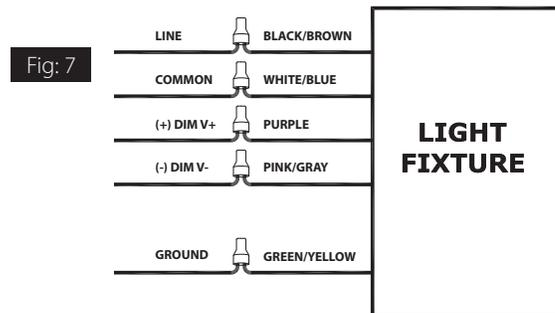

Fig: 7
2. Make appropriate wire connections per NEC in an approved enclosure (*not included*) see **Fig. 7**.
3. Loosen the **Locking Bolts (4)** and swivel **Fixture** to desired angle.
4. Tighten the **Locking Bolts (4)**.
Universal voltage driver permits operation at 120V thru 277V, 50 or 60 Hz. For 0-10 Dimming, follow the wiring directions as shown in Fig. 7.